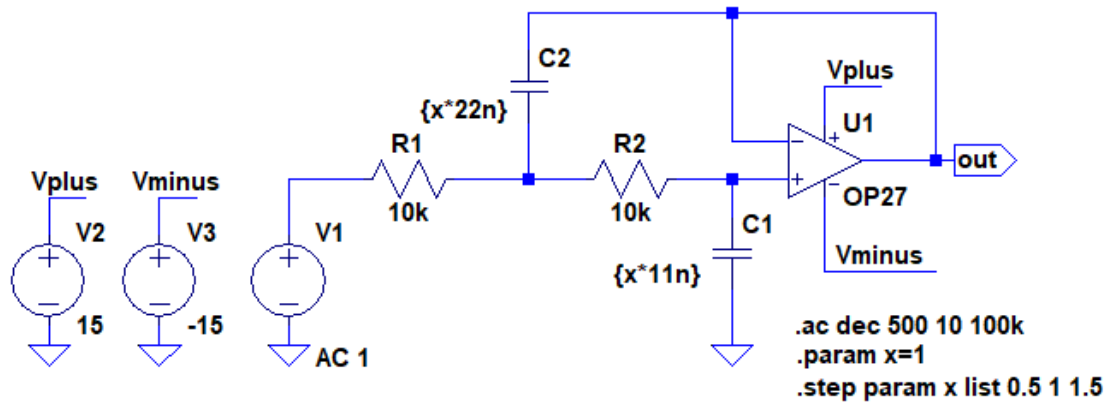

Fig. 5. Study of the effect of changing the capacity.
4. Check the influence of capacitance value on the characteristics. Take capacitance values of  $\pm 50\%$ . Modify the FDP scheme as shown in Figure 5.